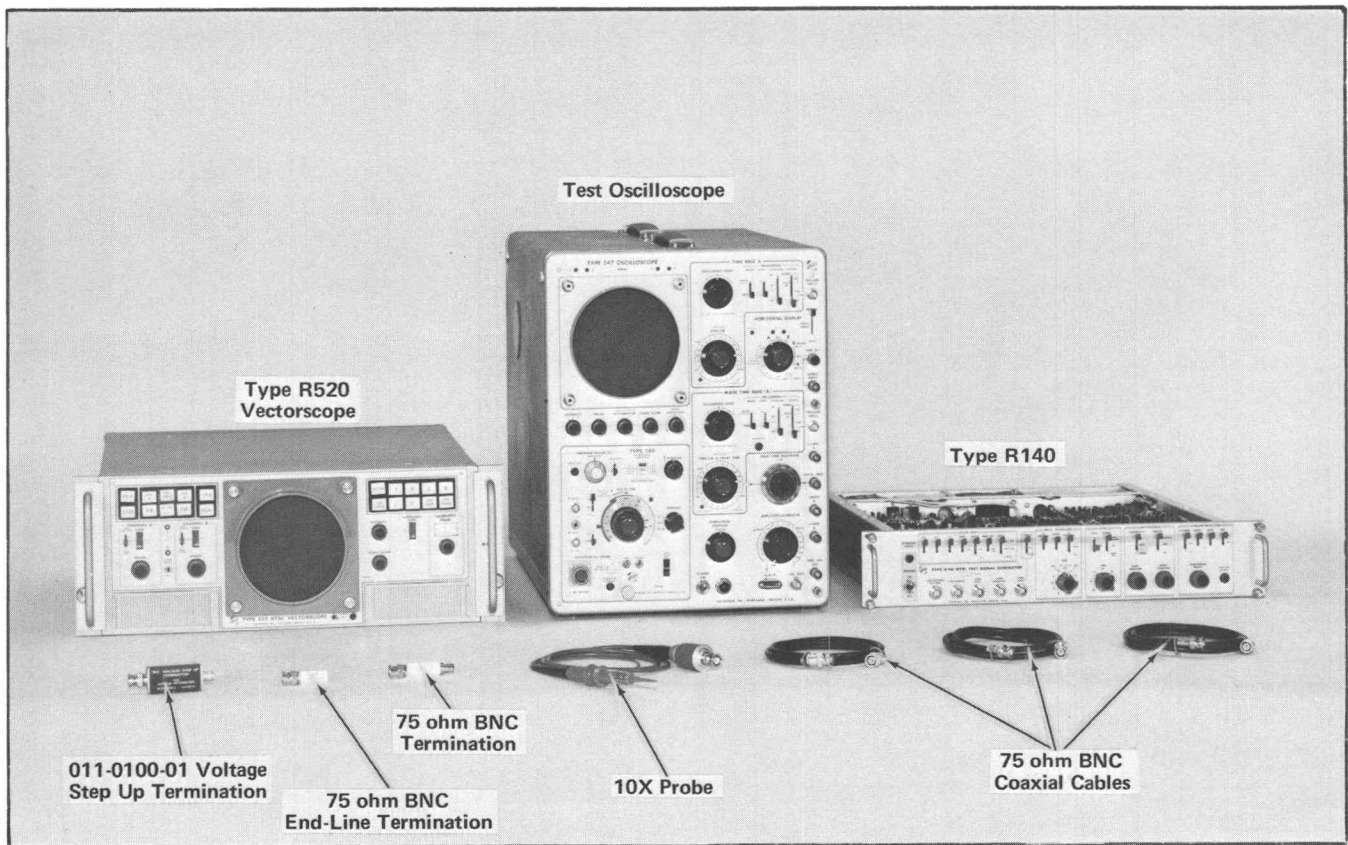

Fig. 5-13. Test equipment required for steps 12 through 17.
- a. Test equipment is shown in Fig. 5-13.